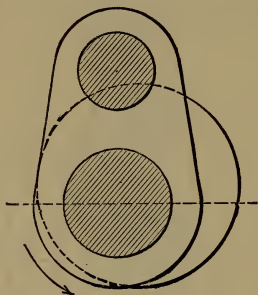

Fig. 198. One Eccentric, Lapped Valve, with rocker.
A. Back of the crank pin (in the opposite direction from which the engine is to run) 90° , less enough to bring the valve line-and-line for admission at stroke end; the eccentric belly being toward the crank. The more lap the more such excess. (See Fig. 198.)